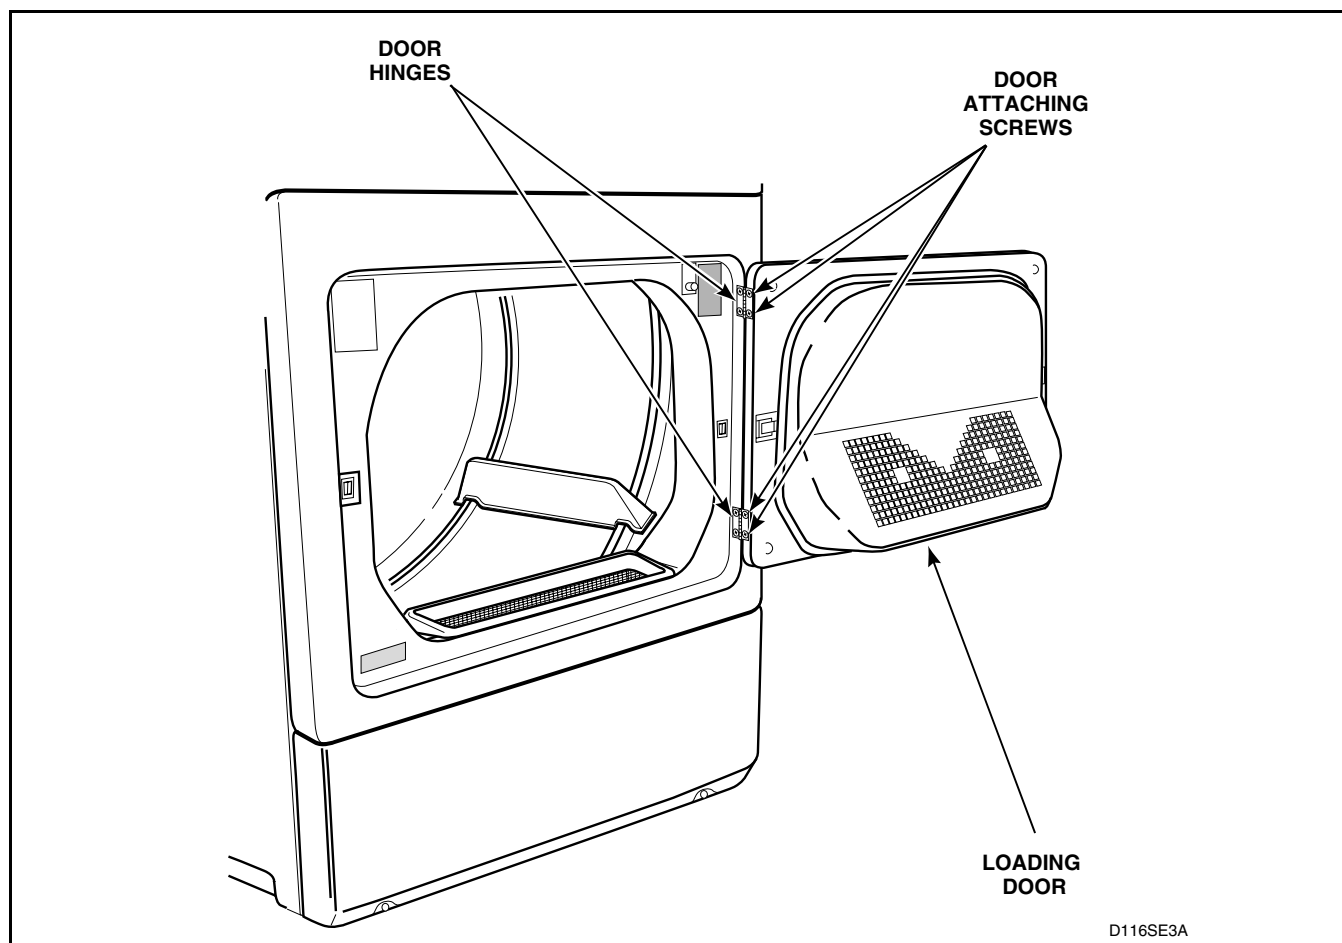

Figure 36
- Open loading door. While supporting door, remove four screws holding door assembly and hinges to front panel. Refer to *Figure 36*.
- Remove four screws holding hinges to loading door. Refer to *Figure 36*.